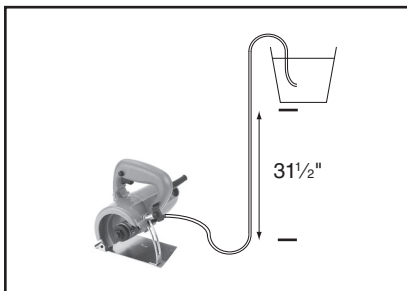

Figure 5. Using a water tank.
4. When connecting the tile saw to a threaded faucet or hose, use the supplied rubber connector. When using a water tank, the tank should be located at least 31½" higher than the work area (**Figure 5**).